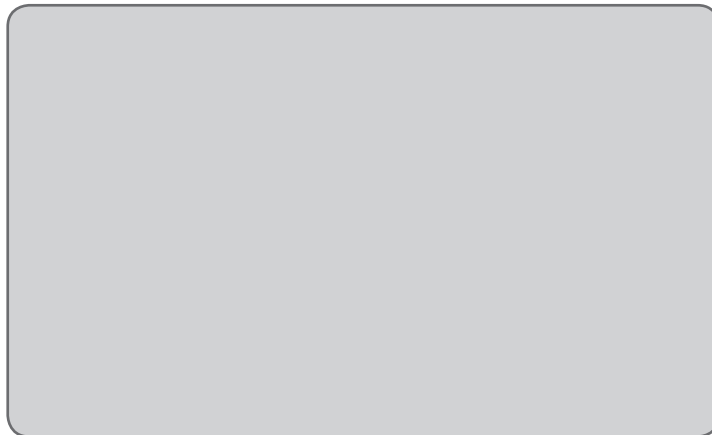

Figure 33: Positioning the Thigh FS Cuff on the hamstrings.
4. While holding the elongation bar, slowly rotate the FS Cuff to the back of your thigh. Rotate the FS Cuff until the elongation bar is centered on the back of the thigh (the hamstrings). See Figure 33.